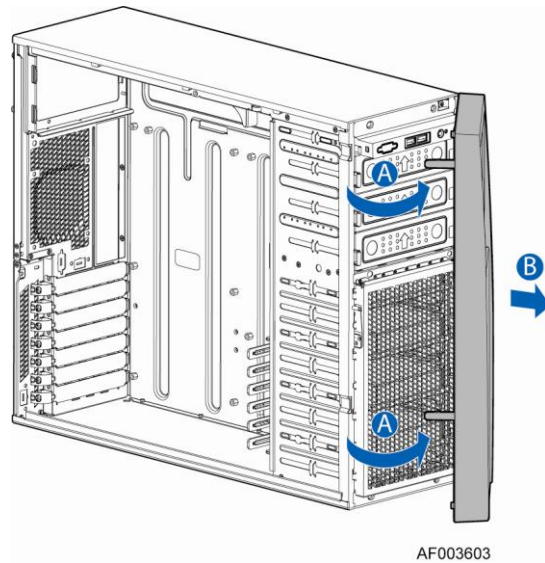

Figure 2. Removing the Front Bezel Assembly
1. Release the two plastic tabs on the left side of the bezel assembly to disengage the tabs, and rotate the bezel assembly (see letter **A** in Figure 2) no more than 40 degrees outward.
2. At a 40-degree angle, push the bezel assembly away from the chassis (see letter **B** in Figure 2).